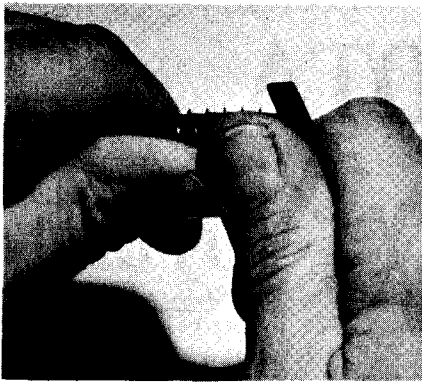

Fig. 3. Sharpening cutting edge
2. Sharpen beveled cutting edge (Fig. 3).
Sharpening cutting edge. While holding bit on ball of thumb and India stone as shown in Fig. 3, slowly rotate the borer away from you and against the stone while holding stone parallel to and firmly on beveled edge. Continue around cutting edge and repeat until sharp. If the cutting edge is nicked, the tungsten-point file may be used to speed up this step. Use the file until the nicks are eliminated and follow this with India stone.